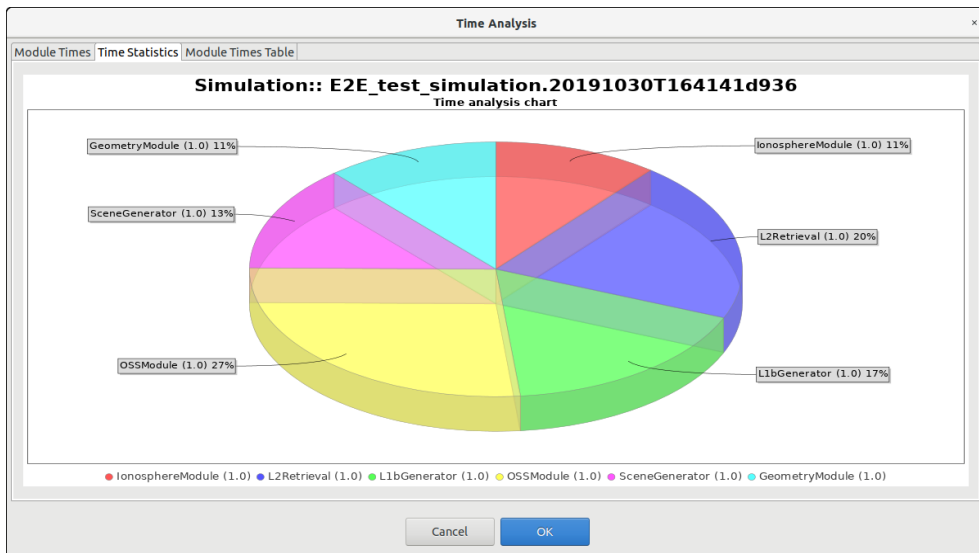

Figure 4-68: Pie chart showing the percentage of time
- *Time Statistics* tab: shows a pie with the simulation time percentage consumed by each module. In case there is more than one Simulation involving one Module, time is divided by the number of module repetitions. See Figure 4-68.